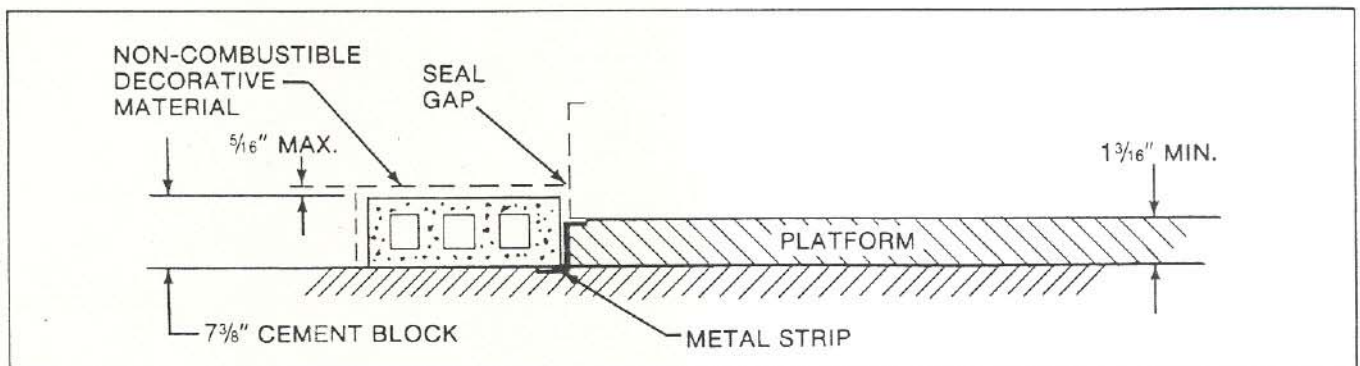

Figure 7
Field constructed Hearth Extensions may be used, but must be constructed in accordance with the following instructions. A typical construction is shown in Figure 7. In all cases of field construction, a minimum dimension of 16" to the front and extending 8" on either side of the fireplace opening must be used, and gaps must be sealed with non-combustible (sand-cement) grout.
A second alternative to the cement block construction shown in Figure 7 is as follows:
4. The platform shown in Figure 7 is not required for this construction.
Figure 7 requires that the fireplace be raised on a platform. A metal strip must be used between the fireplace and the field constructed Hearth Extension. Depending on the construction, a special () shape may be needed. Each horizontal leg must be 2" wide and the length must be at least equal to the length of the Metal Strip provided with each fireplace. The fireplace must rest on a continuous, level surface.